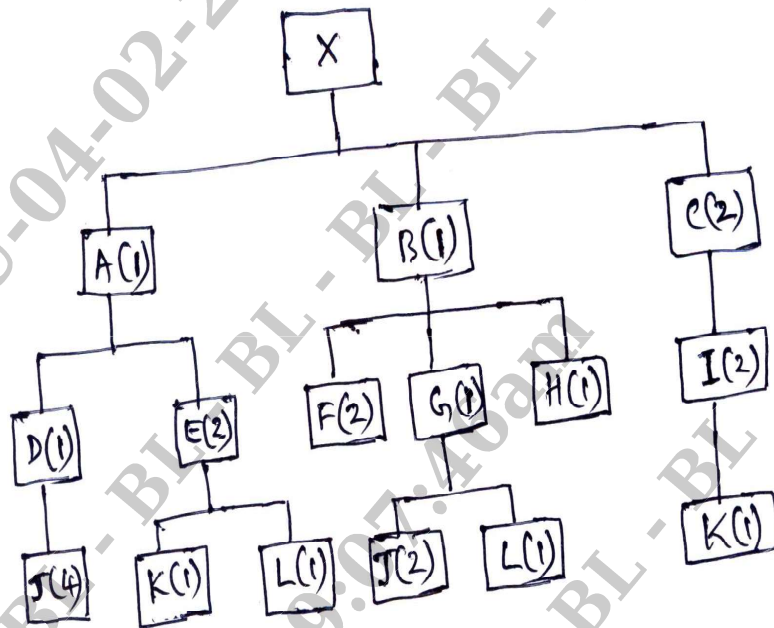

Fig. Q 9 (c) Product Structure tree for X
- c. The product structure tree for X is as shown in figure Q.9(c), with the number of units required shown in brackets. What quantities of E, J and K are required to complete 500 units of X?